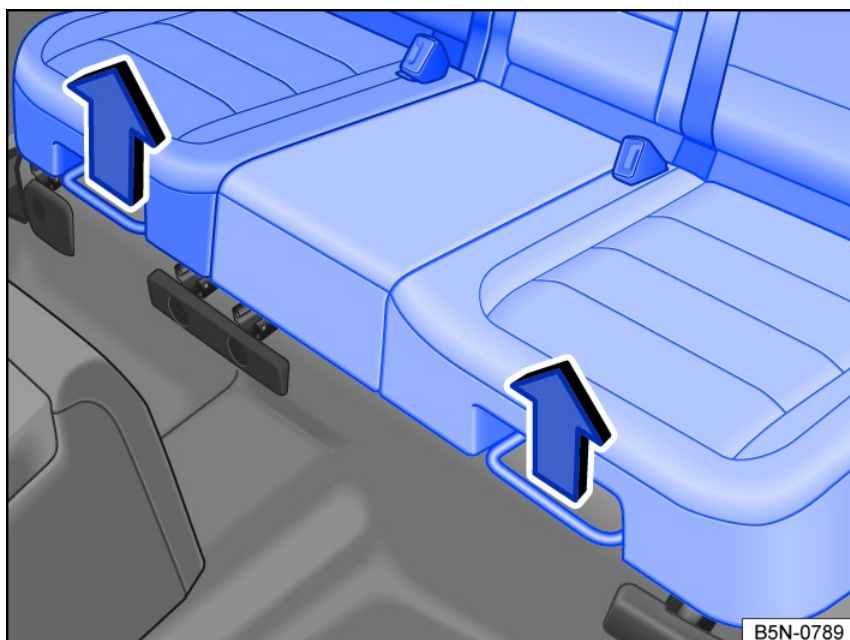

Fig. 77 Under the seat cushion in the rear bench seat: Adjusting lever.
- Pull the right or left lever upward in the direction of the arrow *fig. 77* and slide the corresponding section of the rear bench seat forward or backward.